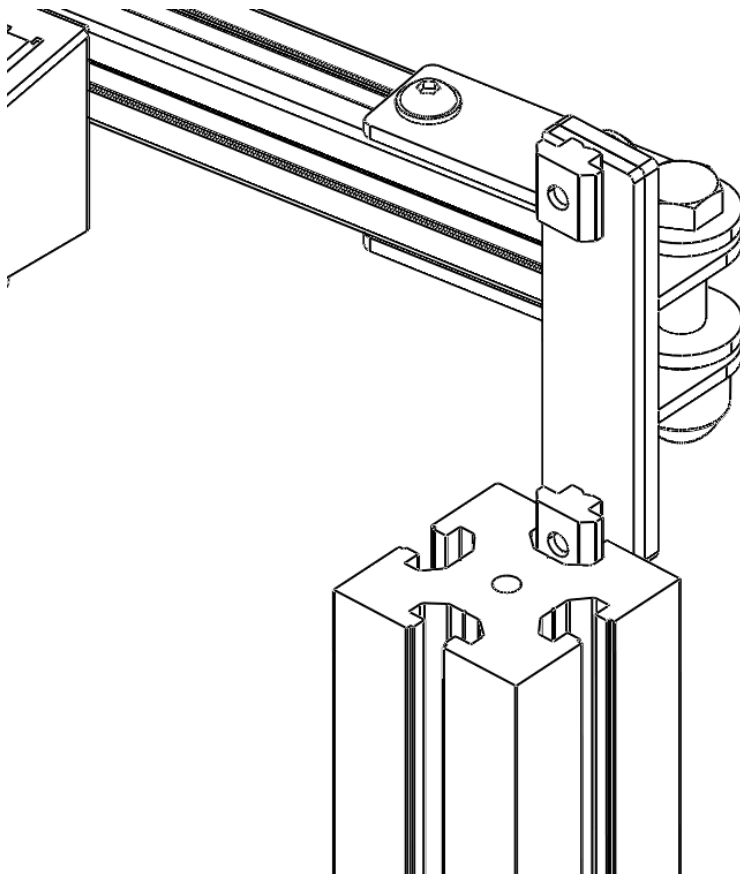

Figure 2
4. Slide the Add-On's groove nuts into the groove of the hinged arm segment (Figures 2 through 4). Tighten the screws with a 4 mm hex wrench.